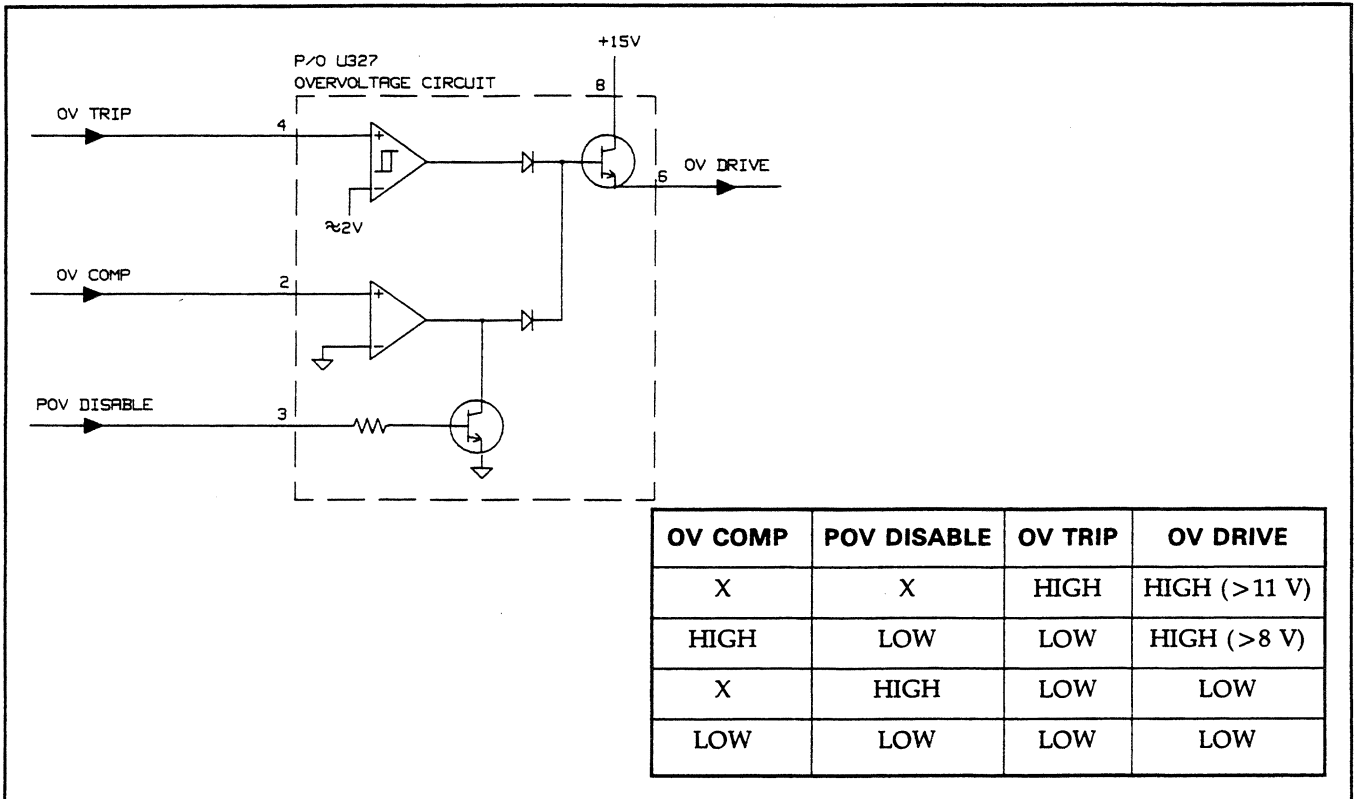
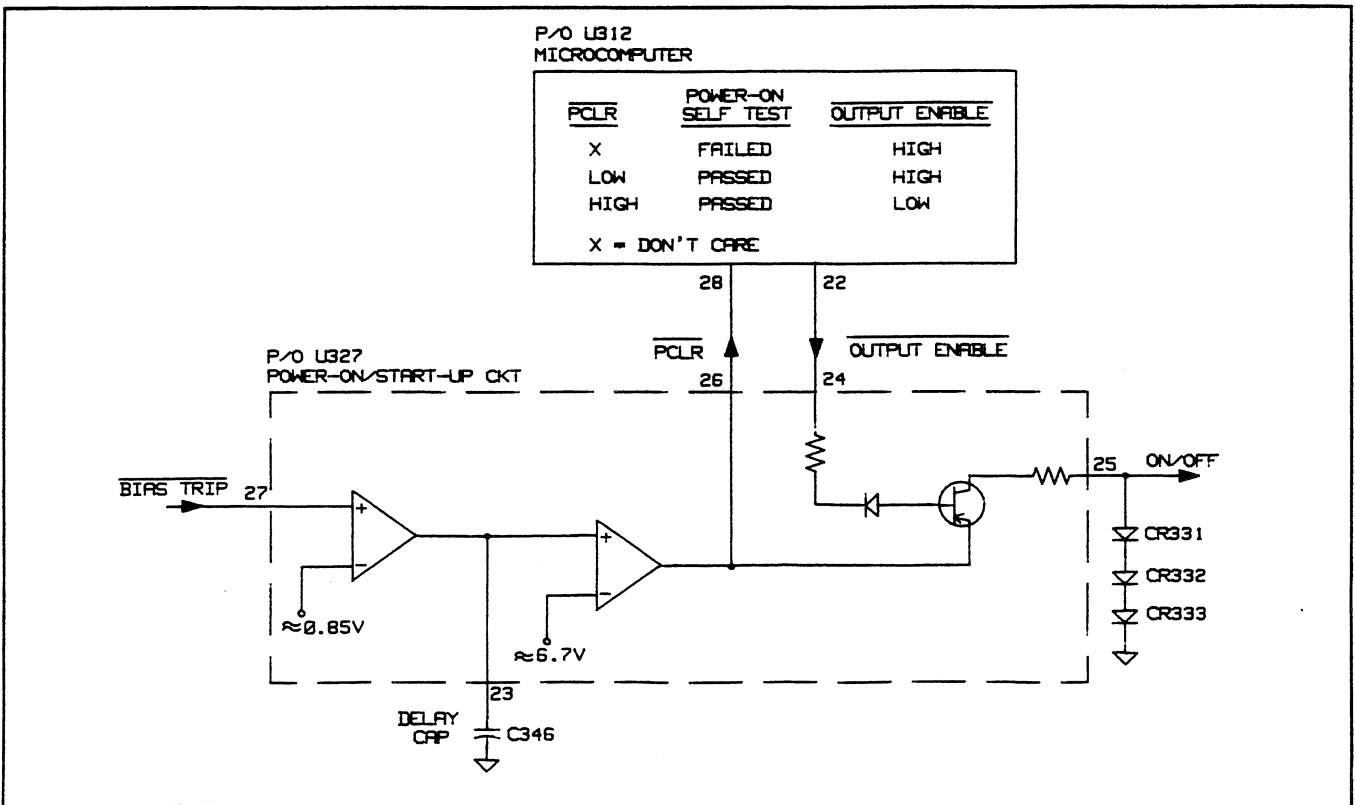

Figure 4-17. Signal Processor U327, Overvoltage Circuit, Simplified Schematic Diagram
Figure 4-18. Signal Processor U327, Power-On/Start-Up Circuit, Simplified Schematic Diagram
Proper operation of the IC can be verified by measuring the pin voltages and using Table 4-16 which lists the voltage levels and defines the low and high states. This information is used in conjunction with the pin descriptions (paragraph 4-31) and simplified schematics to troubleshoot the signal processor's overvoltage (Figure 4-17), power-on/ start-up (Figure 4-18), and status monitor circuits (Figure 4-19). Additional troubleshooting information for the status monitor circuit is given in paragraph 4-32 and Figure 4-20.
**OV DRIVE (pin 6):** This output signal is a function of inputs: OV COMP, POV DISABLE, and OV TRIP. When OV DRIVE goes High, it fires the SCR in the power module. The OV DRIVE pin voltage will be > 8 V when tripped from OV COMP and > 11 V when tripped from OV TRIP (see Figure 4-17).
**DELAY CAP (pin 23):** When BIAS TRIP (pin 27) is High, this signal causes a slow charge of an external delay capacitor toward the DELAY CAP High level which, when reached, causes PCLR (pin 26) to go High. When BIAS TRIP is Low, this signal causes a quick discharge of the external delay capacitor (see Figure 4-18).
**ON/OFF (pin 25):** This output pin goes High when PCLR (pin 26) is High and OUTPUT ENABLE (pin 24) is Low (see Figure 4-18). When High, the ON/OFF line enables the control circuits and current sources of the output board which allows power to reach the output terminals.
**PCLR (pin 26):** This output goes High when DELAY CAP (pin 23) goes High (see Figure 4-18). When PCLR is High and OUTPUT ENABLE (pin 24) is Low, ON/OFF (pin 25) goes High.